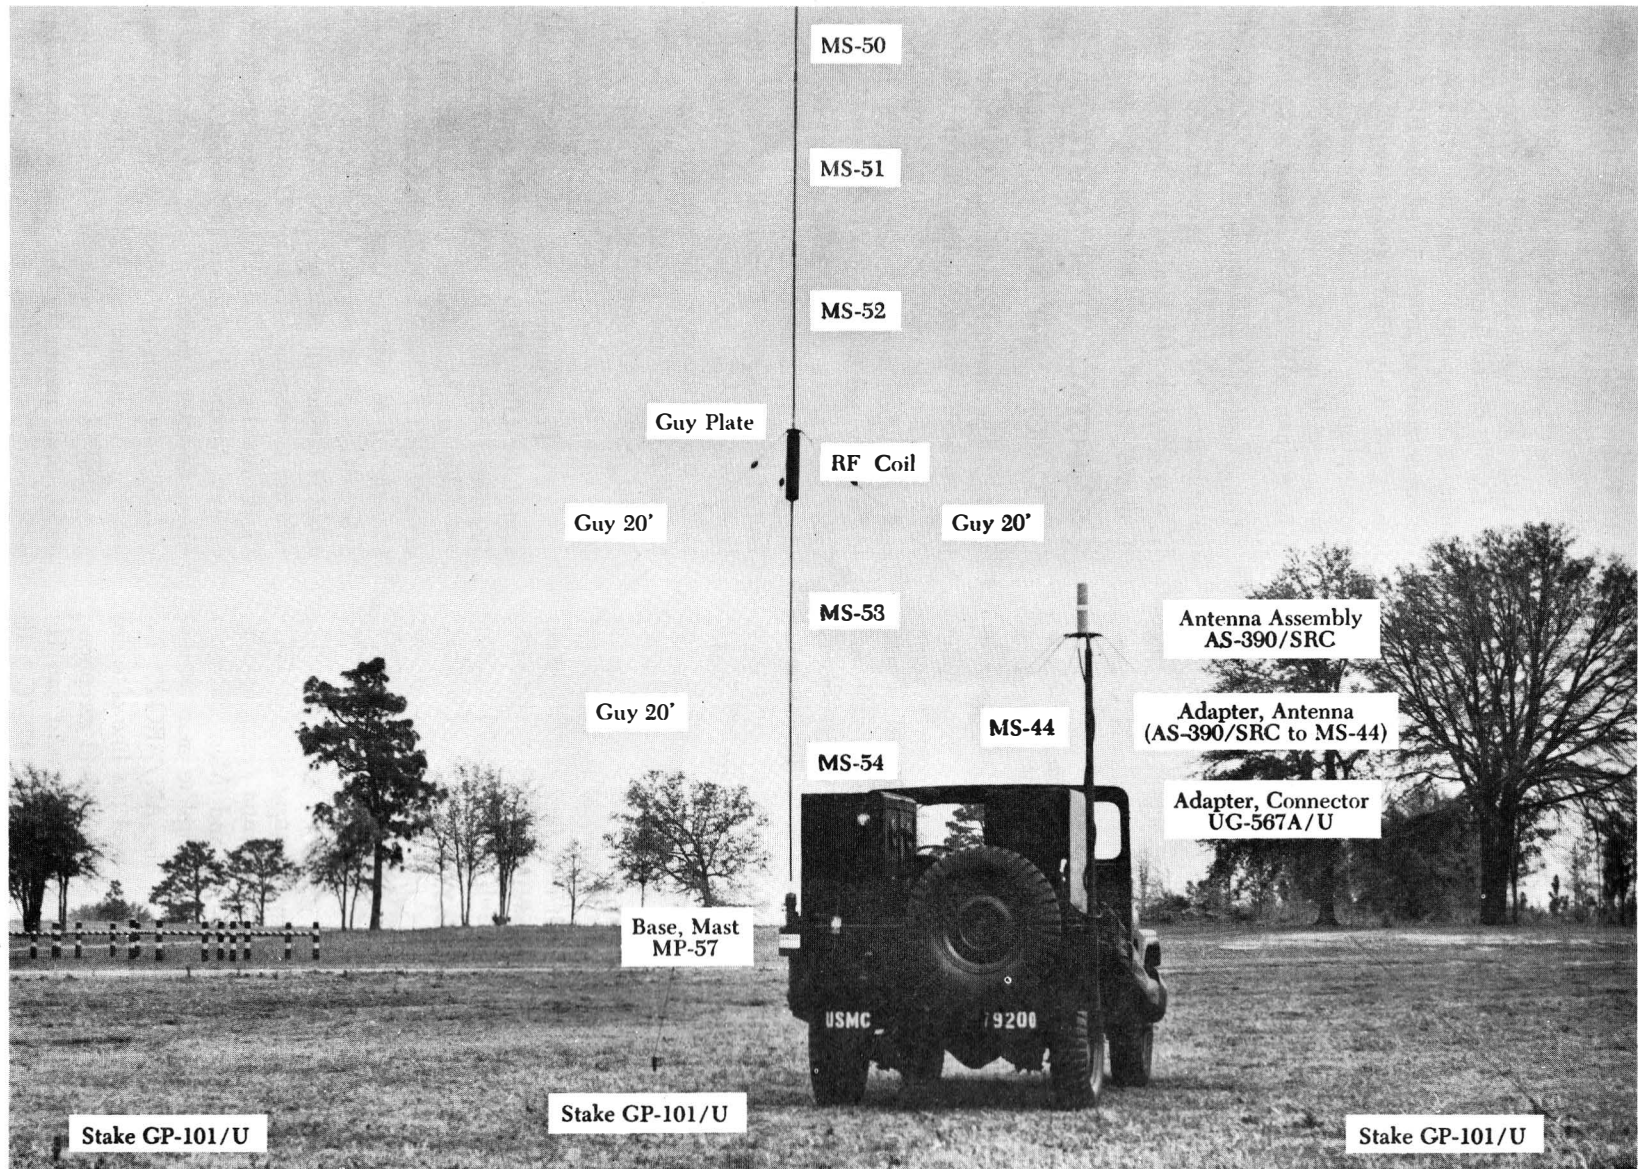

Figure 2-1. Antenna Installation.
b. Radio Transmitter T-47/ART-13 and Radio Receiver BC-348-(\*) antenna consists of Mast Base MP-57A, Mast Sections MS-49 through MS-54, inclusive, with the RF Coil (used at low frequencies, 200 to 600 KCS), placed between sections MS-52 and MS-53. Normally, the spring base on the MP-57A will support the six sections of antenna and the RF Coil; however, three Guys, Guy Plate, and three Stakes GP-101/G are supplied to support the antenna when required. The guy plate is to be installed between RF Coil and Mast Section MS-52. (See figure 2-1.)
b. GROUND ROD AND COUNTERPOISE.— After the whip antenna and Antenna Assembly AS-390/SRC are installed, (see figure 2-1) it is advisable to install the ground rod which is provided with the AN/MRC-35A. The ground rod should be driven into the ground approximately four feet and be connected to the AN/MRC-35A vehicle chassis utilizing the 10 feet of braid supplied. For permanent installations, a counterpoise system can be fabricated using field telephone wire or similar items. The counterpoise should consist of a minimum of eight radials approximately